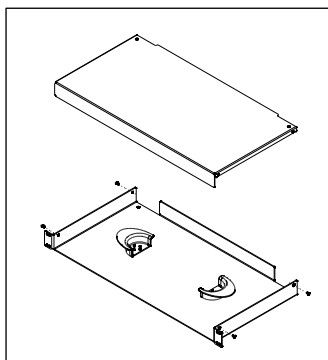

Figure 10 Opening the Tray
1. The tray cover is secured with four Phillips screws. To open the tray, remove the screws and lift off the cover (Figure 10). Save the cover and screws for re-installation.